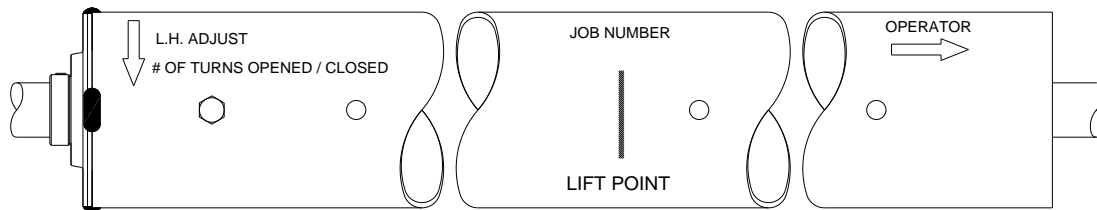

Figure 6.1 – Barrel Markings (Left Hand Adjust Shown)
2. Unpack the barrel assembly. Note the markings on the barrel, see **Figure 6.1** below.
4. Check to make sure the required number of turns is noted on the barrel, as shown in **Figure 6.1**. Consult the distributor or the manufacturer if you cannot locate this information. Check that these numbers match the information provided on the job information. Take note of these numbers, as access to this information may be obstructed once the curtain is installed.
- **Crane Hoisting:** Place a sling or lifting agent under the barrel assembly at the "lift point" provided on the barrel, see **Figure 6.1**.
- **Forklift Hoisting:** Space the forks evenly under the "lift point" provided on the barrel, see **Figure 6.1**. Ensure that the barrel assembly is positioned close enough to the tips of the forks that the fastening holes in the bracket can be aligned with those of the guides without the forks contacting the wall. Secure the barrel assembly to avoid the slipping off the tip of the forks.